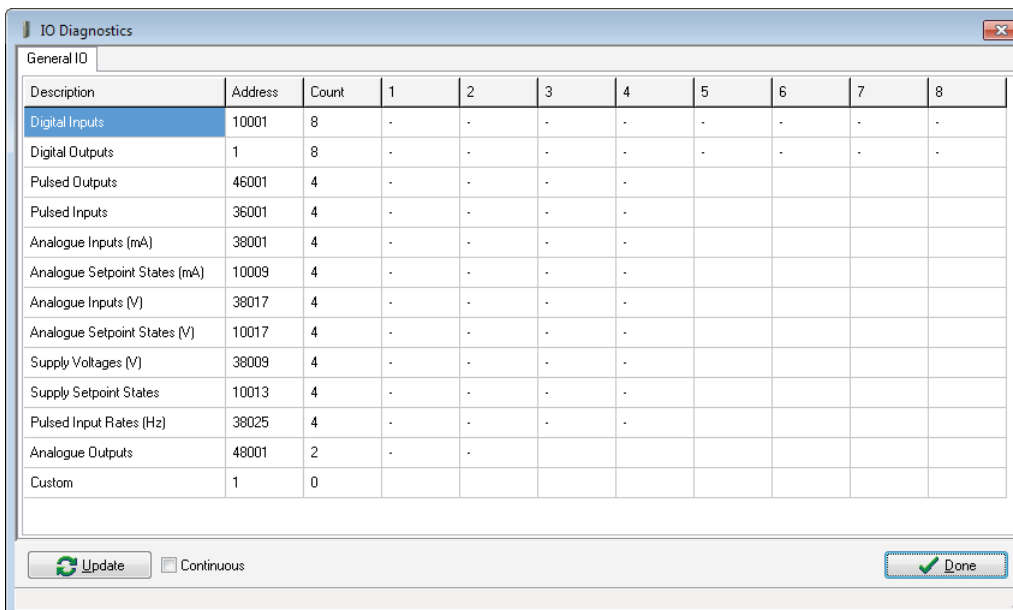

Figure 35 IO Diagnostics
- IO Diagnostics** Allows you to view the internal registers for the selected module unit (see Figure 35).